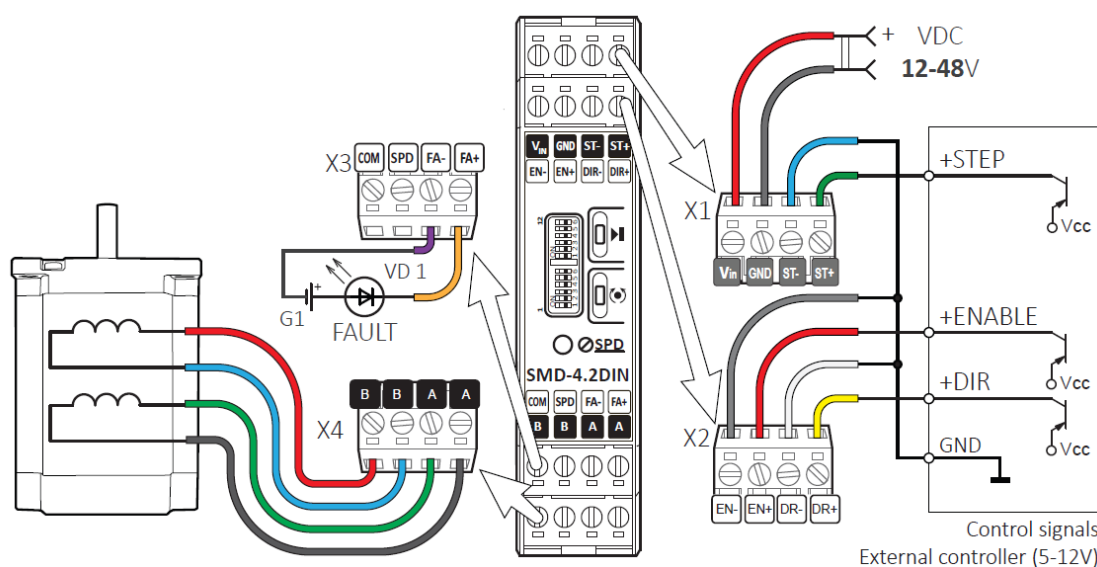

Fig.3. Example of connection to a source of logical signals STEP/DIR/ENABLE - open collector, PNP.
- Open the housing as shown in Figure 3;